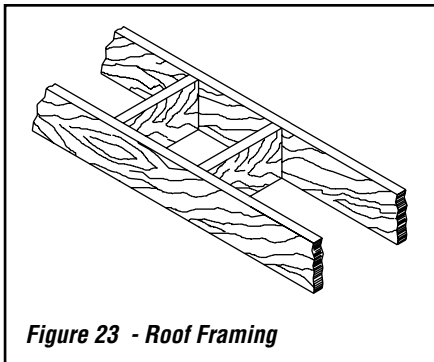

Figure 23 - Roof Framing
1. Cut and frame the holes in the ceiling, floor and roof where the chimney will pass (see **Figure 23**). Use a plumb-bob to line up the center of the holes. The sizes are indicated in **Table 2** for the floor and ceiling holes and **Table 3** (Page 16) for the roof holes.